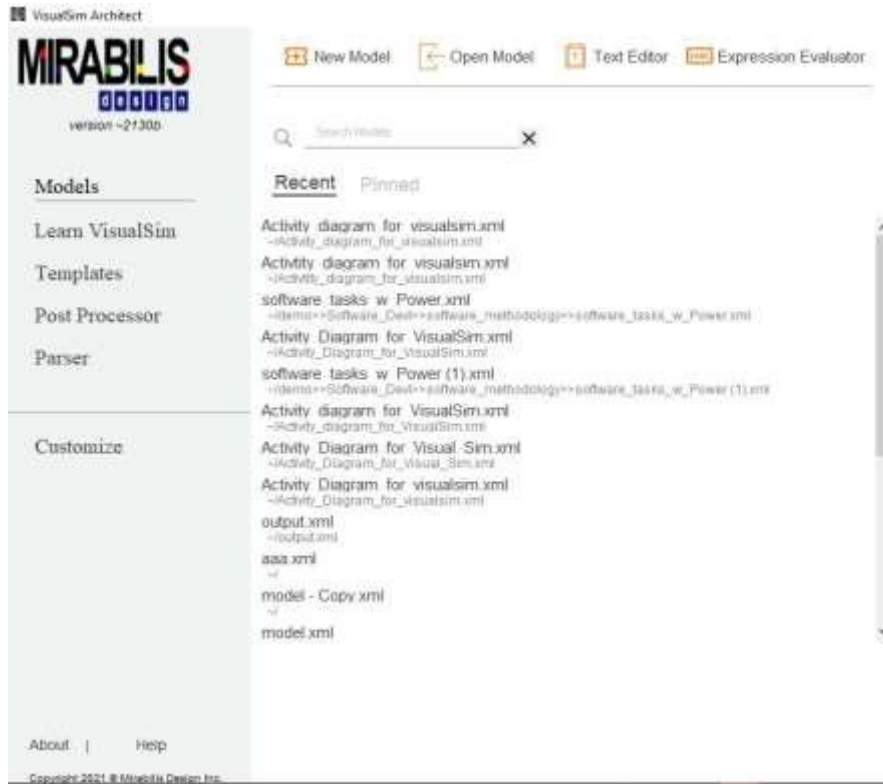

Fig 8: VisualSim
Step 3: Open the VisualSim. As shown in Fig 8.